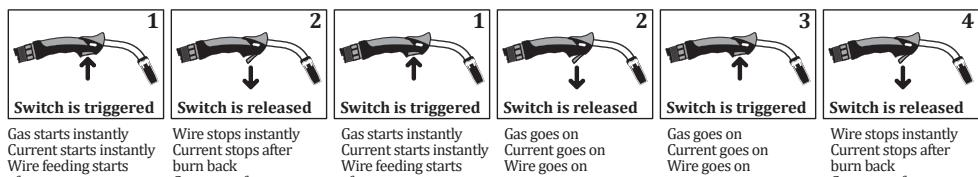

Figure 15 : Using the 2-Position
- The 2-position operates as shown in Figure 15.